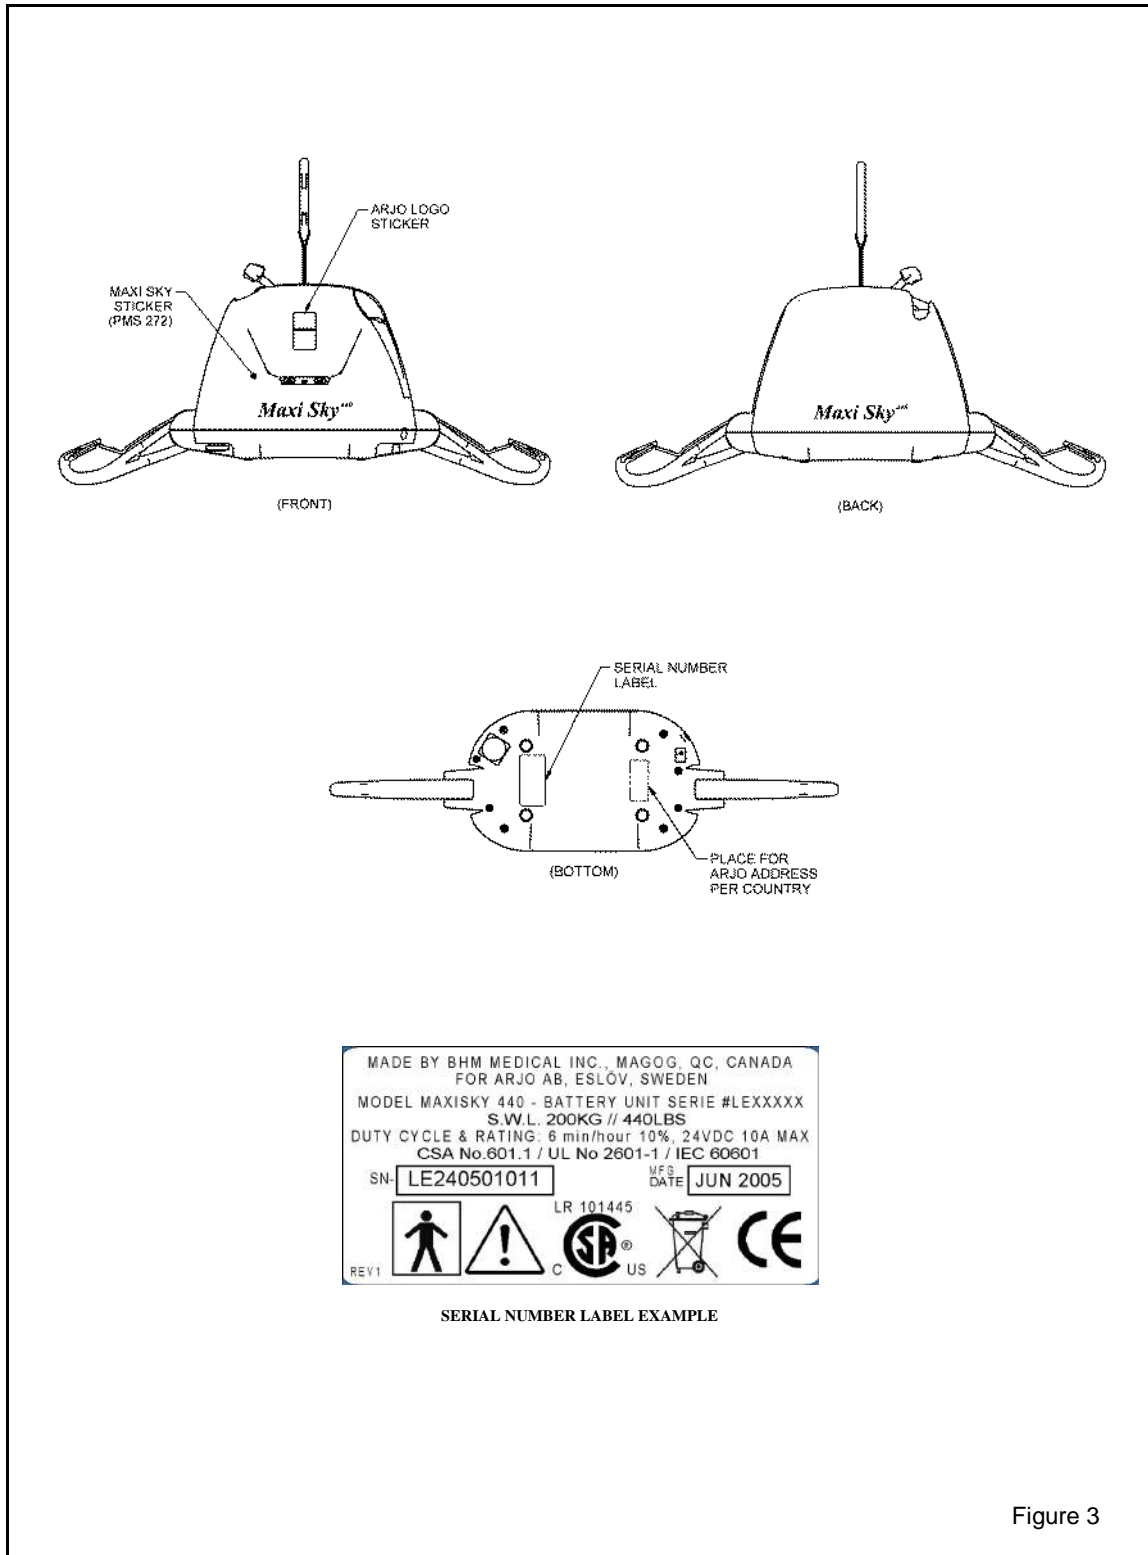

Figure 3
On the ceiling lift cassette data labels you will find the following information. *See figure 3:*
- 4 Insert the special key into the opening then turn it clockwise to lower the resident. See figure 3. The key rotation turns the motor directly so for each key turn, the resident will lower slightly. Once the resident is lowered safely on a bed or into a wheelchair, remove the key from the lift and call a certified technician to service your *Maxi Sky*⁴⁴⁰.